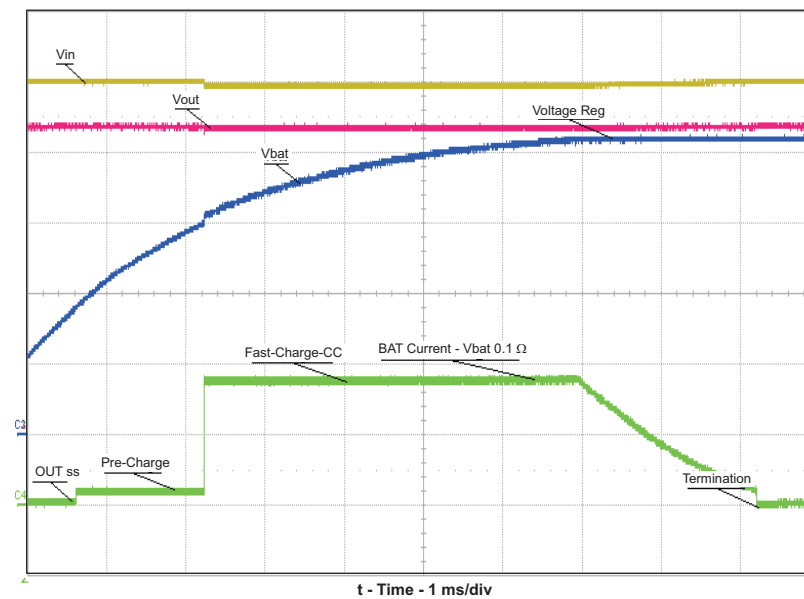

Figure 3. Charger Profile With EN1 = VSS and EN2 = HI, Programmed by ISET
14. Set JMP3 to HI, and verify that the charging is disabled and that the CHG LED (D1) turns off. Verify that the system is still powered by the input. See Figure 3.